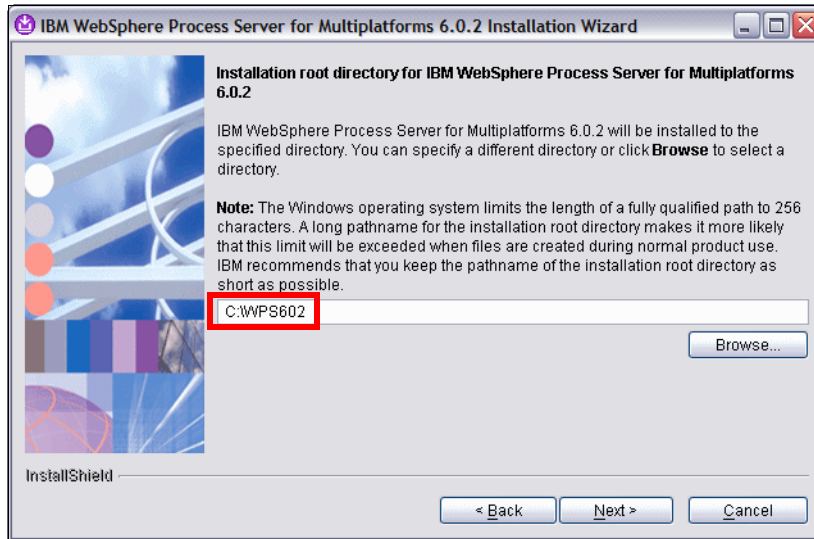

Figure A-17 WebSphere Process Server: Installation Directory
- ▶ Enter the name of the installation directory (Figure A-17). The default is: